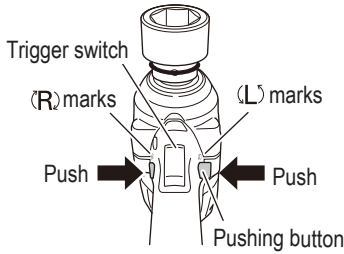

Fig. 12
The bit rotates clockwise (viewed from the rear side) by pushing the R-side of the pushing button. The L-side of the pushing button is pushed to turn the bit counterclockwise. (See Fig. 12). (The (L) and (R) marks are engraved on the body.)